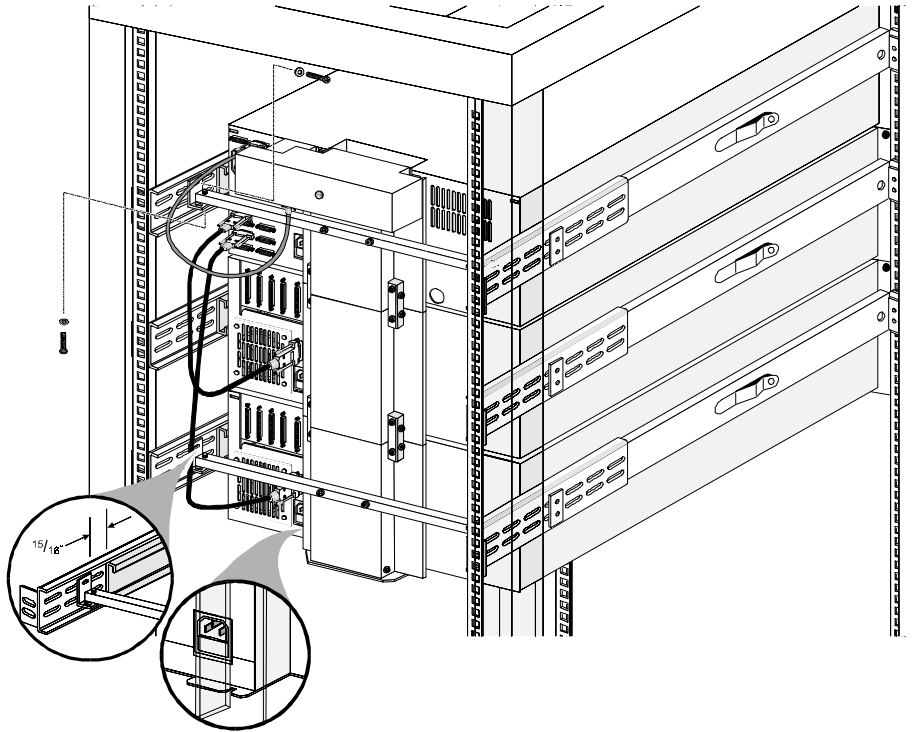

Figure 2-12 Installing the XpressChannel in the Rack
1. If you have not previously done so, install the angle brackets on the rack slide extensions of the top and bottom modules, using one 10-32 screw and an L-shaped nut plate for each angle bracket. The L-shaped nut plates should hang from the top of the slide extensions on the outside. Place the angle brackets so the front edge of the vertical part is 15/16" behind the rear edge of the slide body, as shown in the inset in Figure 2-12.
2. Referring to Figure 2-12, position the XpressChannel against the back of the installed modules so that the support braces rest on the previously installed angle brackets. Install an M4 x 20 mm screw and washer through the rear hole in each angle bracket into the support braces. Do not tighten.
3. Look closely at the right flange of the XpressChannel (left side as viewed from the rear of the rack) as shown in the inset in Figure 2-12. At the top module, position the XpressChannel horizontally so that the edge of the flange fits exactly into the slot on the rear of the chassis of the top and bottom modules.